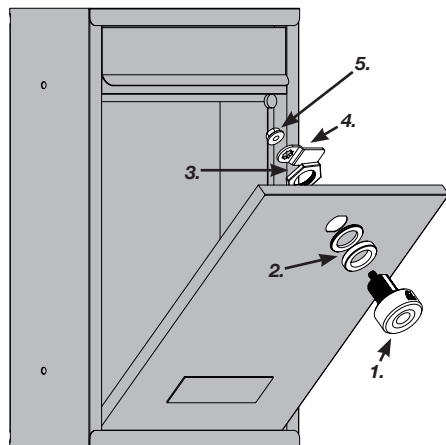

Fig. 1
Please check the installation depth (X) and the installation diameter of the lock (Fig. 1).